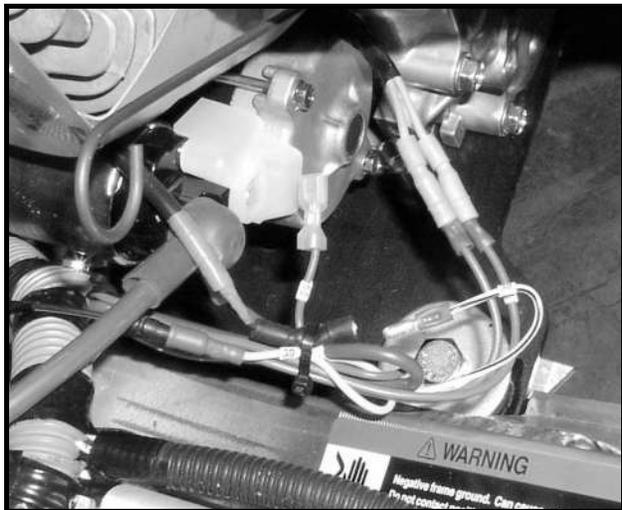

Figure 11a-23 Engine Kill Wire
3. Disconnect white/black wire bullet connector located near the starter (**Figure 11a-23, Page 11a-28**).
2. Disconnect the engine kill white/black wire (w38) at the bullet connector located near the starter (**Figure 11a-23, Page 11a-28**). **See following NOTE.**